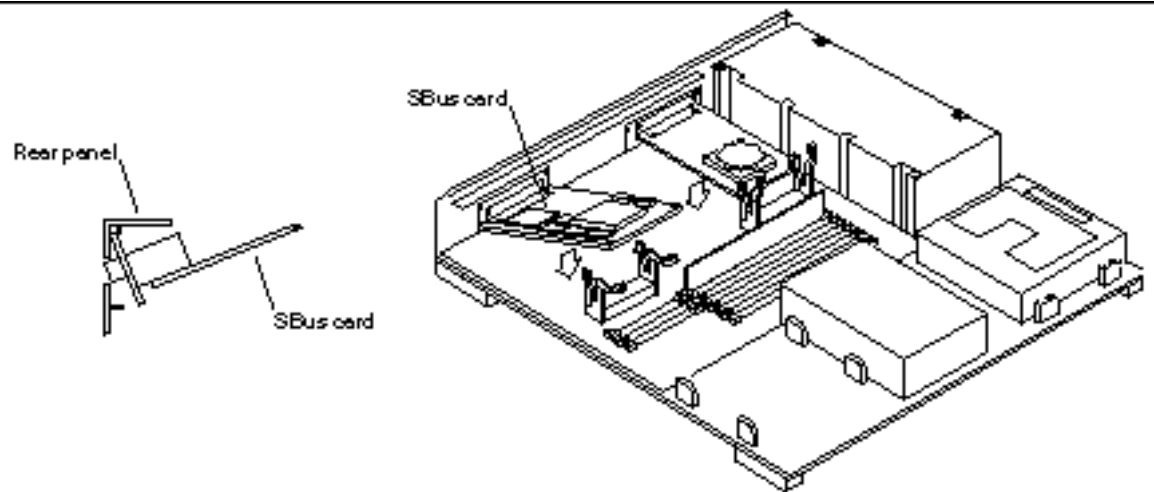

Figure 6-7 Installing the SBus Card in Slot 2 or 3
b. Slide the SBus card at an angle into the back panel of the system unit (See Figure 6-7).